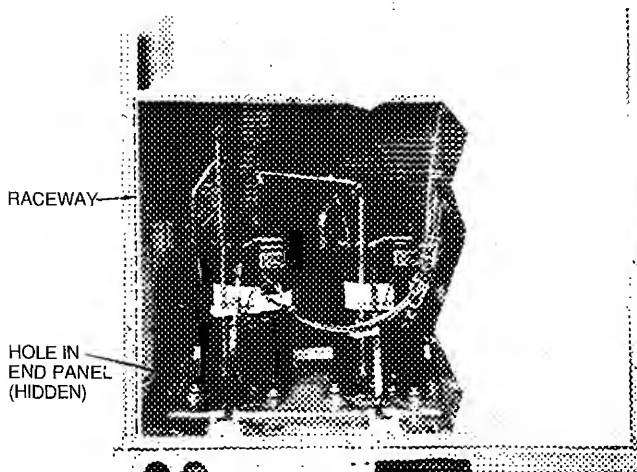

Fig. 9 – Field Control Wiring Raceway
3. Feed wire through the raceway built into the corner post to the 24-v barrier located on the left side of the control box. See Fig. 9. The raceway provides the UL-required clearance between the high- and low-voltage wiring